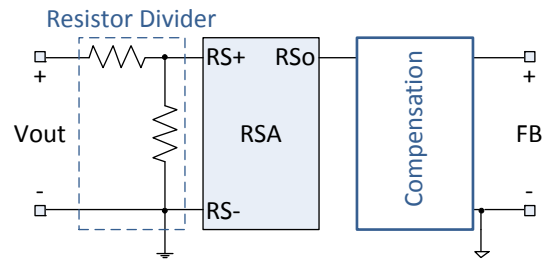

Figure 10: General Remote Sense Configuration
There are two remote sense configurations that are usually implemented. Figure 10 shows a general remote sense (RS) configuration. This configuration allows the RSA to monitor output voltages above VCC. A resistor divider is placed in between the output and the RSA to provide a lower input voltage to the RSA inputs. Typically, the resistor divider is calculated to provide VREF (0.6V) across the RSA inputs which is then outputted to RSo. The input impedance of the RSA is 63 KOhms typically and should be accounted for when determining values for the resistor divider. To account for the input impedance, assume a 63 KOhm resistor in parallel to the lower resistor in the divider network. The compensation is then designed for 0.6V to match the RSo value.